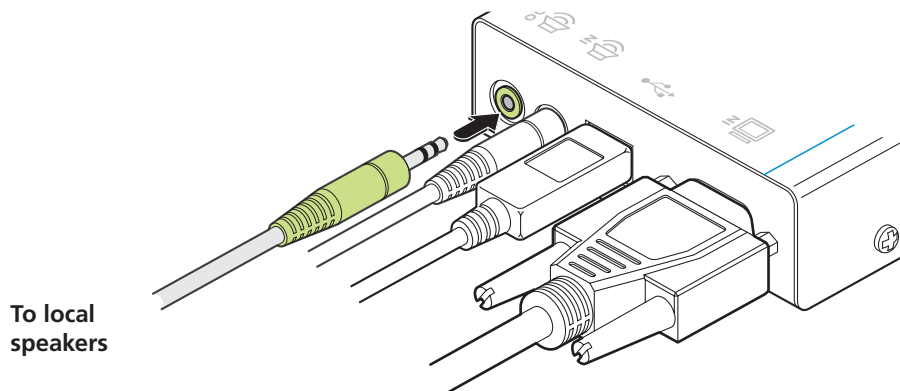

Figure 3-4. Optionally attaching local speakers
- 3 Optionally connect local speakers to the audio output connector on the local module as shown in Figure 3-4: